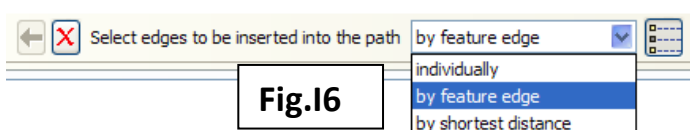

Fig.I6
- In the prompt area, choose **Feature Edge** (**Fig.I6**)